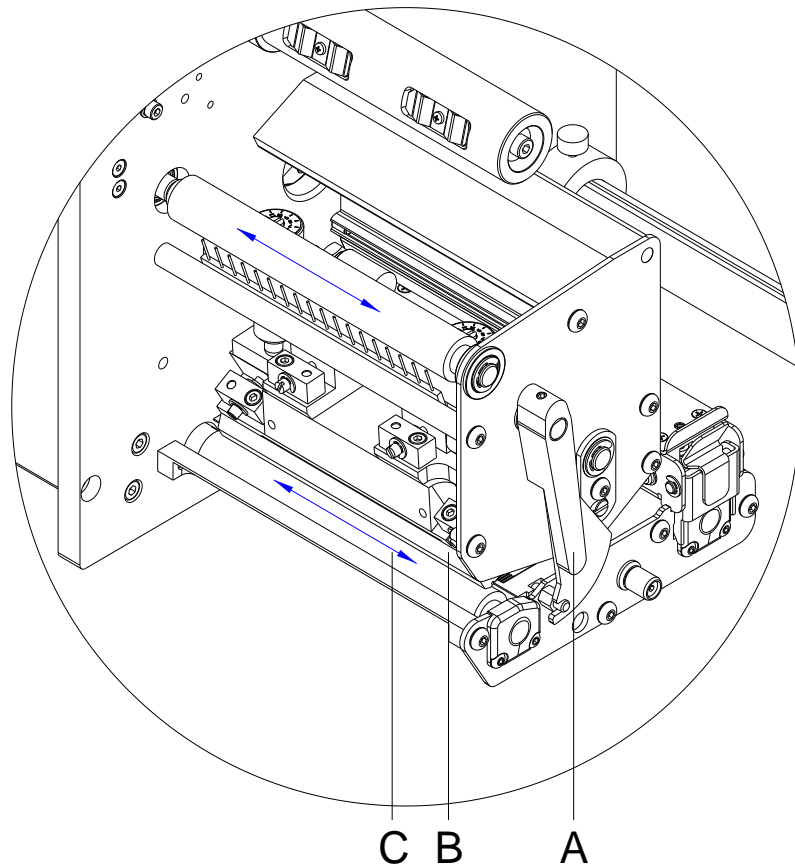

Figure 5
2. Turn the lever (A, Figure 5) counter clockwise to lift up the printhead.